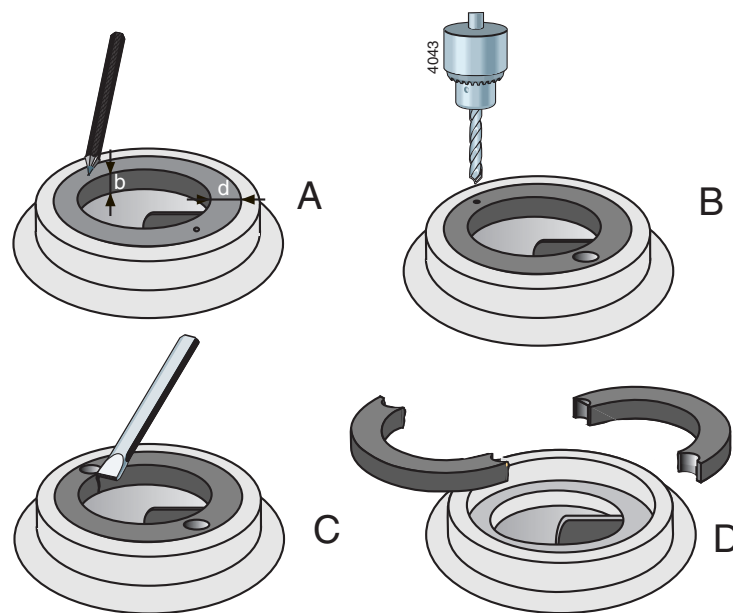

Figure 4: Removal of wear ring.
- 1 Measure the thickness (d) and the width (b) of the ring, see figure 4 A.
- 2 Make a centre hole in the middle of the edge of the ring at two opposite points, see figure 4 B.
- 3 Use a drill with a diameter just a little bit smaller than the thickness (d) of the ring and drill two holes in the ring, see figure 4 C. Don't drill deeper than the width (b) of the ring. Take care not to damage the fitting edge of the pump casing.
- 4 Use a chisel to cut the remaining part of the ring thickness. Now you can remove the ring in two parts from the pump casing, see figure 4 D.